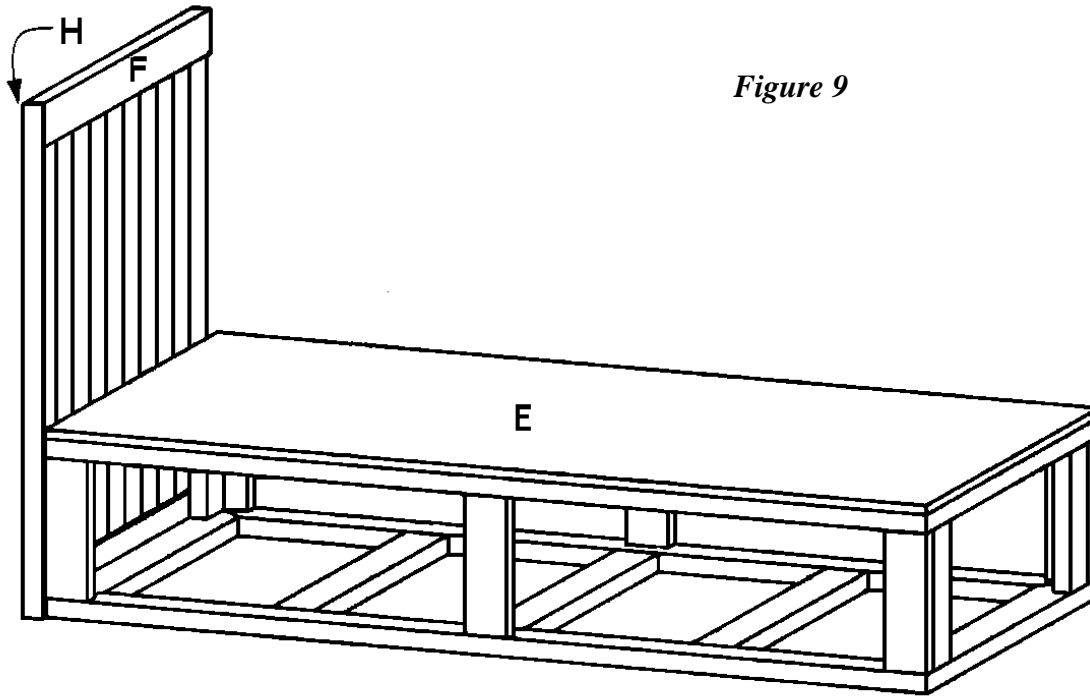

Figure 9
7. Attach the headboard to the head of the bed frame, as shown in *Figure 9*. Note that the headboard assembly extends 3/4-inch past the frame assembly at the front. To make the daybed